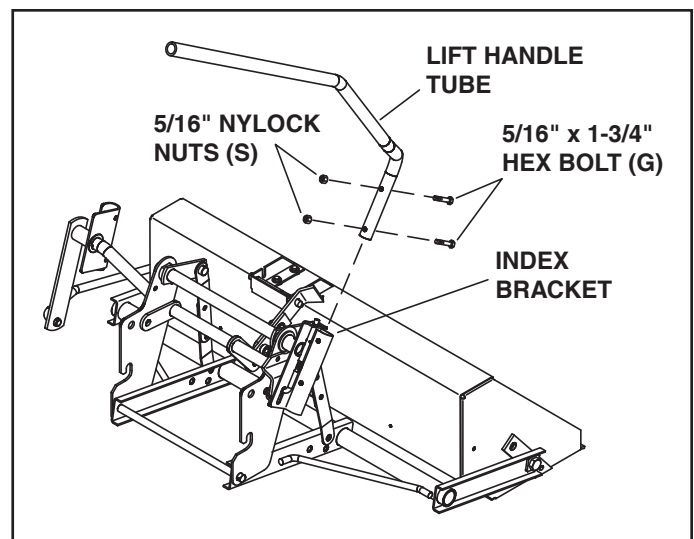

FIGURE 11
STEP 12: INSTALL LIFT HANDLE TUBE (SEE FIGURE 11)
- Install the lift handle tube into the index bracket using two 5/16" x 1-3/4" hex bolts (G) and 5/16" nylock nuts (S).